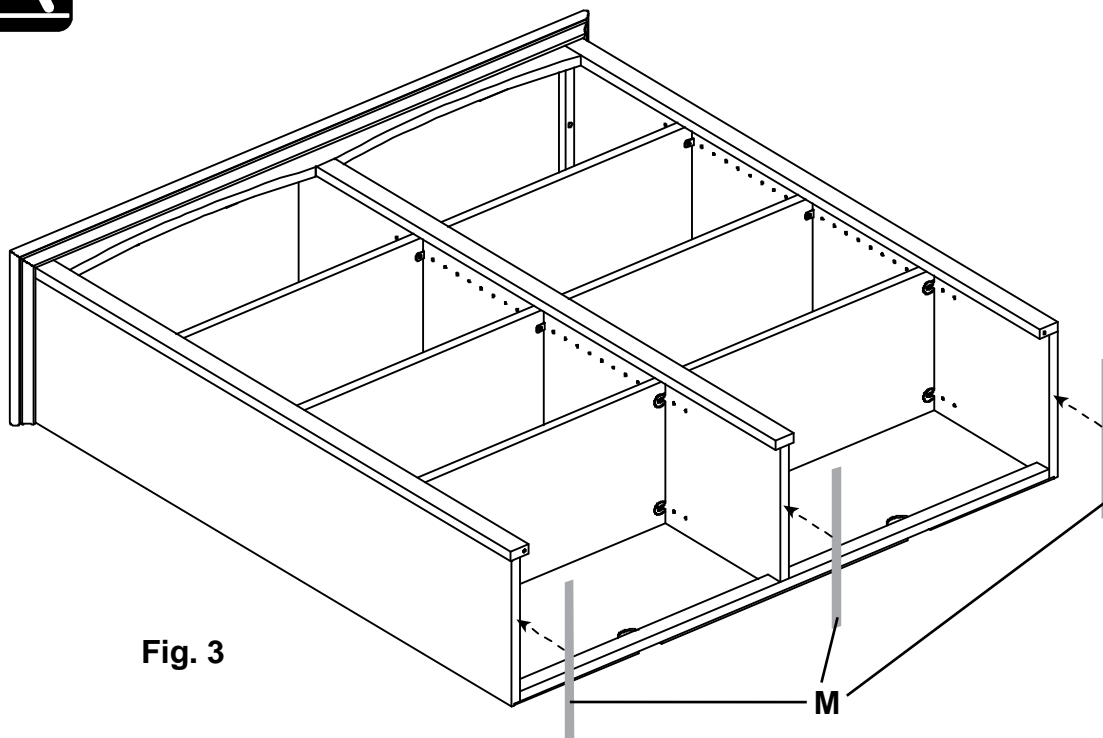

Fig. 3
- Place the Hutch face-up on a clean, protected surface. Peel the backing tape off one of the Pads Strip (M) and place it on the bottom of the left side of the Case Assembly. Repeat for the right side and for the 1632 on the Vertical Divider. See Figure 3.